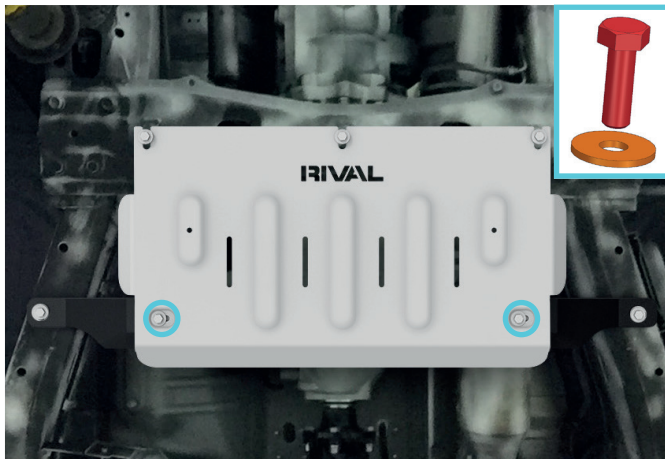

Fig. 4
4. Secure rear part of the skid plate to mounting bracket using bolts M8x1.25x25 (item A) with washers M8 (item B) as shown in fig.4.